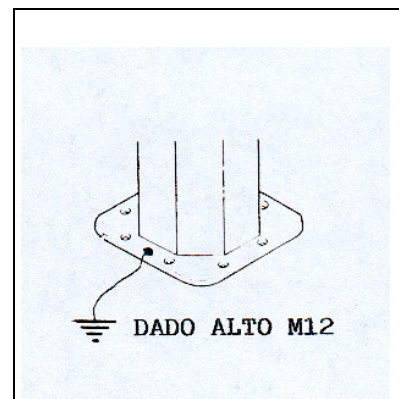

fig.44
- **Make the connection of the crane structure to the earthing system, at the grip points provided for this purpose (fig.44).**